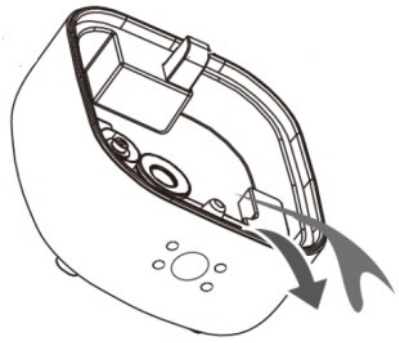

Figure 2
2. Open the lid (2) and fill up the water tank (6)
4. When adding water, do not pour water into the spray nozzle (3) and do not pour water into the mist outlet (10).
5. Be careful not to exceed the MAX water level marked on the mist air duct (5) - see Figure 2. Use clean tap water.
6. Close the lid of the water tank (2), set the direction of the mist outlet by turning the cap (1). Connect the device to the mains socket.
7. When the device is not in use, pour out the water from the water tank (6).
8. To reduce the formation of scale in the water, the machine is equipped with a water descaling filter (13), a plastic disc that you will find inside the water tank. Do not throw away the filter (13) when changing water, the filter is active for 1 year, you can optionally purchase a filter for this device, number CR7973.1 from the seller of this device.